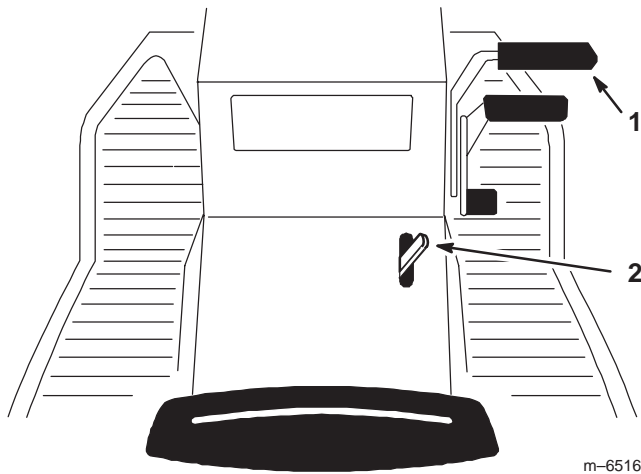

Figure 3
1. Push the brake pedal (Fig. 3) down and hold it in the depressed position.
2. Push the parking brake lever (Fig. 3) forward and gradually take your foot off the brake pedal. The brake pedal should stay in the depressed (locked) position.
1. Push down on the brake pedal (Fig. 3). The parking brake lever should release.